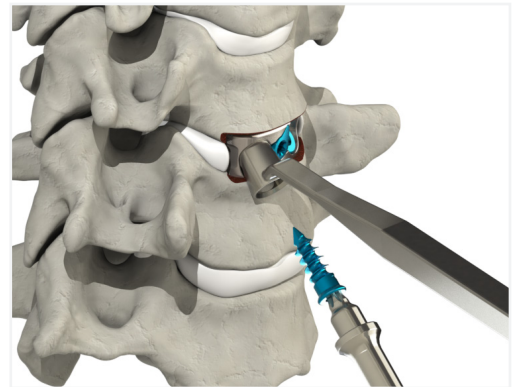

Figure 18
- ▶ Insert the screw through the Screw Hole into the implant (Fig. 18). Drive the screw until it is fully seated in the implant. Repeat this step for both screws.